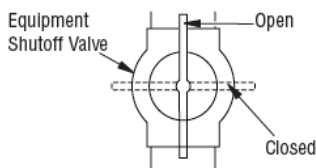

Figure 29 - Equipment Shut-off Valve
1. Close equipment shut-off valve (see Figure 29).
1. Open equipment shut-off valve (see Figure 29).